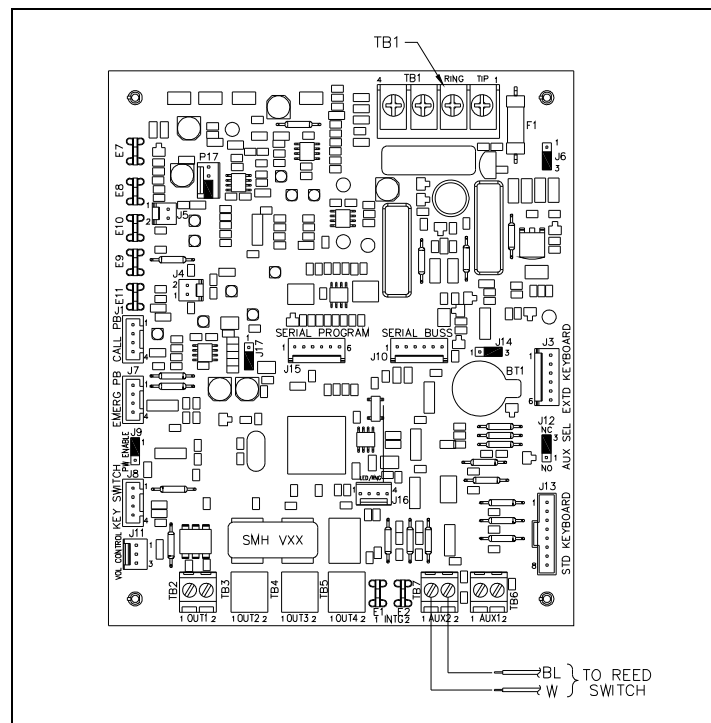
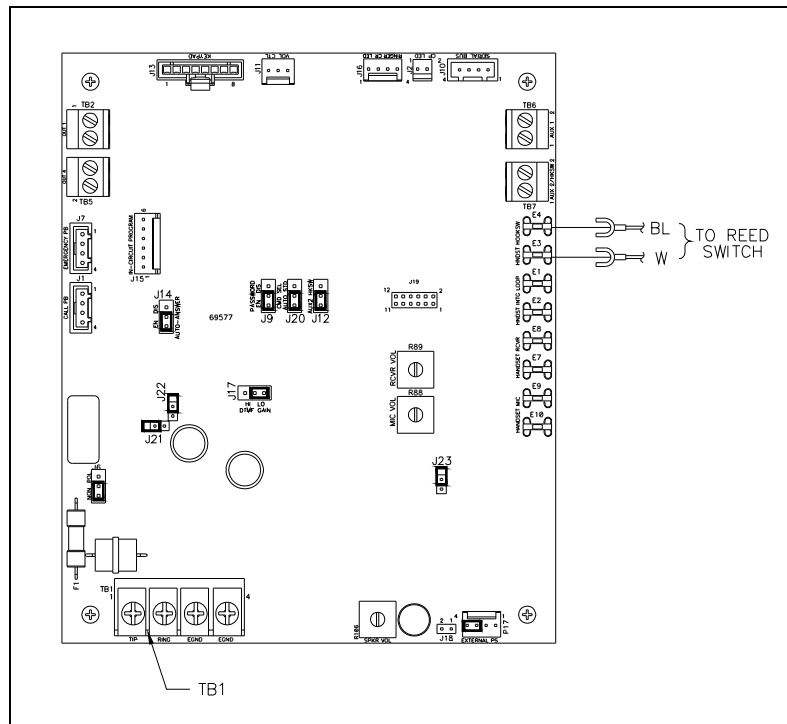
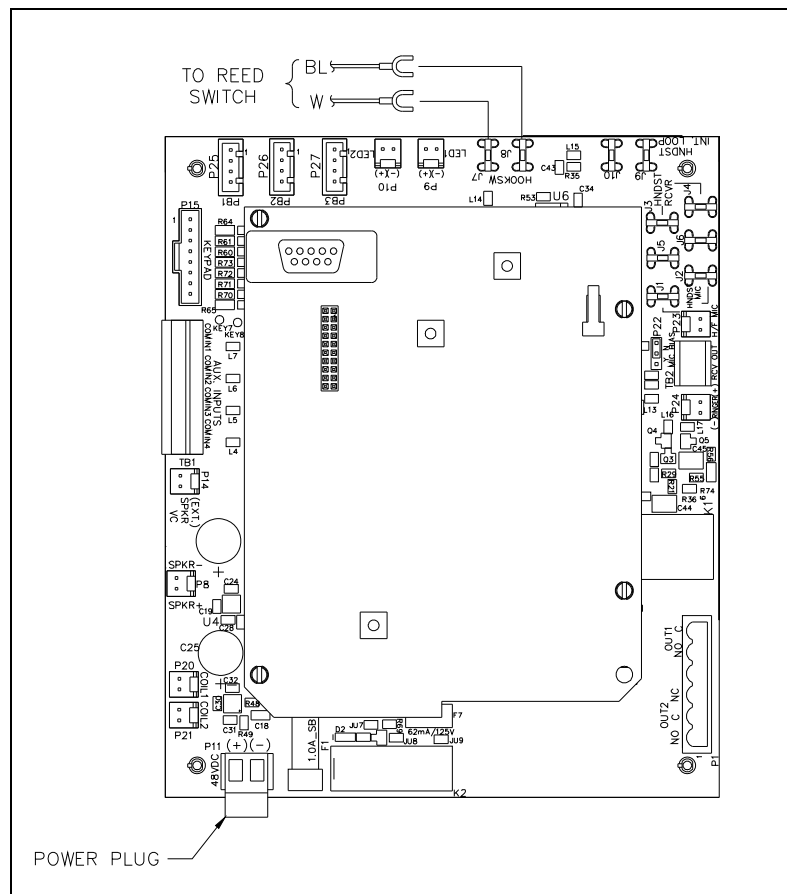

Figure 5. Emergency/Smart Telephone PCBA (for Models 24x-003 and 25x-003)
Figure 6. Smart Handset Telephone PCBA (for Models 24x-005 and 25x-005)
Figure 7. VoIP Carrier PCBA and VoIP Circuit PCBA (for Models 246-700 and 256-700)
2. For Models 24x-003 and 24x-005: Disconnect the red (Ring) and green (Tip) wires from TB1. See Figure 5 and Figure 6.
12. Plug spades on the blue and white wires into appropriate E-clips on the PCBA. For models with the suffixes -005 and -700, see Figure 6 and Figure 7.
For models with the suffix -003, clip off spade lugs and strip the wire ¼ inch and install the leads into TB7. See Figure 5.